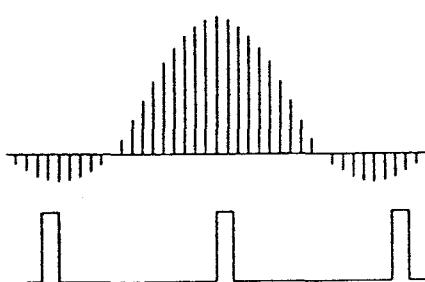

Figure 46. Narrow pulse width causes wide spectrum lobes; long cycle time results in low spectral line density.
The envelope of the pulsed spectrum follows the mathematical form $\gamma = \frac{\sin X}{X}$ and is comprised of a main center lobe and several side lobes, separated by amplitude null points. Spacing between the spectral lines of the lobes is equal to the pulse repetition frequency, and is also equal to $1/CT$ (IE-17A Cycle Time). The frequency spacing between null points of the tone burst is equal to $1/\tau$, where τ is equal to the programmed Pulse Width (PW) of the IE-17A. It follows, therefore, that the narrower the selected pulse width, the wider the sidelobes, and the longer the cycle time, the more closely spaced are the spectral components, as demonstrated in Figures 46 through 49 on the following page.